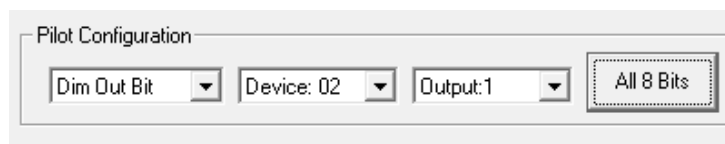

Figure 19 Dim Out Bit Pilot Setting for Dimmer Status
- Dimmer Value (0-100%) and Dim Bar Graphic will display the output state of the ILC dimmer and can be set to the same address as the Slider type control input/photo sensor. In the LightLEEDer panel programming the a Photocell -2 second input device, the Pilot Configuration is set for “Dim Out Bit”, “Device 0#” for the dimmer device to be tracked and “Output #” (1 to 4). Then activate the “ALL 8 Bits” selection (Data for all 8 LS LED are used for the return data). Example pilot return set for Dim Out Bit, Dimmer Device 02, Output 1, All 8 Bits as shown in Figure 19